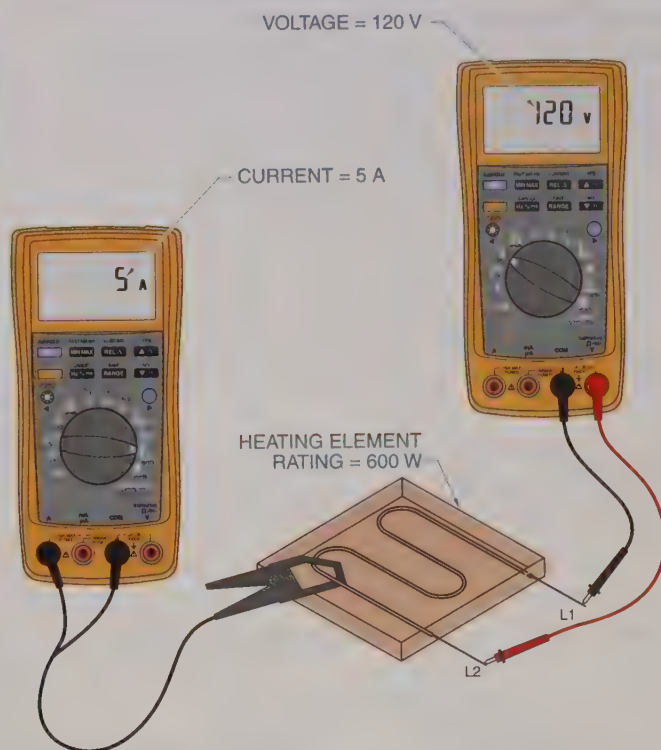

Figure 1-41. The power formula is the relationship between power (P), voltage (E), and current (I) in an electrical circuit.
True Power Calculations. The *power formula* is the relationship between power (P), voltage (E), and current (I) in an electrical circuit. Any value in this relationship may be found using the power formula when the other two values are known. The relationship between power, voltage, and current may be visualized by presenting the power formula in pie chart form. See Figure 1-41.